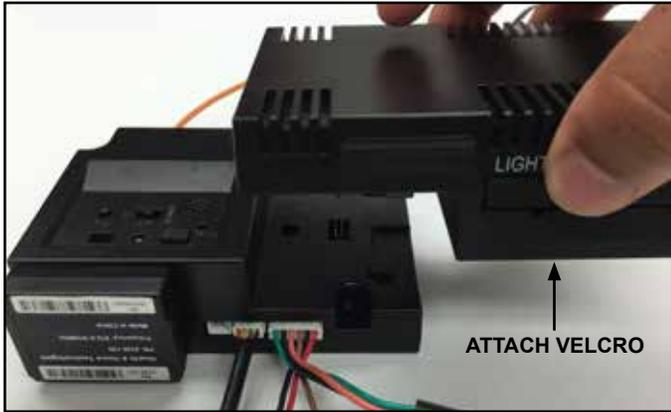

Figure 2. Connecting IFT-ACM and IFT-ECM
- Attach velcro included with the IFT-ACM to the bottom of the ACM. See Figure 2.
- Connect the IFT-ACM to the IFT-ECM by aligning the pins and tabs and pushing the IFT-ACM into the IFT-ECM until both tabs latch in place. Ensure the IFT-ECM and IFT-ACM are aligned with each other and fastened securely. See Figure 2.